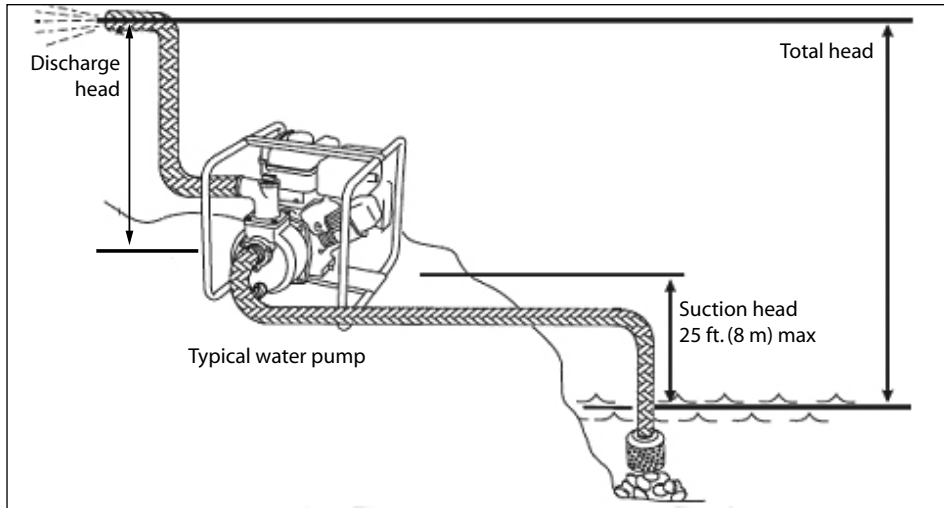

FIG. 1
Use this pump for water only, where the vertical suction head from the water level is 25 ft. (8m) or less. Head refers to the height of a column of water that can be delivered by the discharge of the pump (Figure 1). Suction head (or suction lift) is the vertical distance between the center of the pump and the surface of the liquid on the suction side of the pump. Discharge head is the vertical distance between the pump's discharge port and the point of discharge. Total head is
- LOCATION:** For permanent installation, put the pump in a clean, dry, and ventilated place (Figure 1). **Keep the suction line as short as possible.** This will allow the pump to operate at maximum performance and to ensure that the casing does not overheat due to the absence of water.